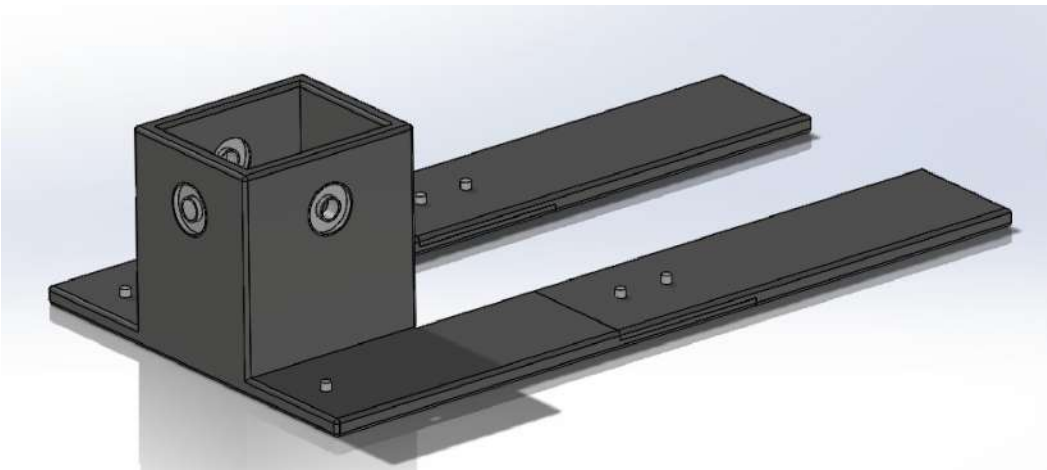

Figure 13: Adding Gearbox extensions
2. Connect 3D printed gearbox extension pieces to the gearbox via six M5 screws, as shown in figure 13. Screws should be screwed in from the bottom up.